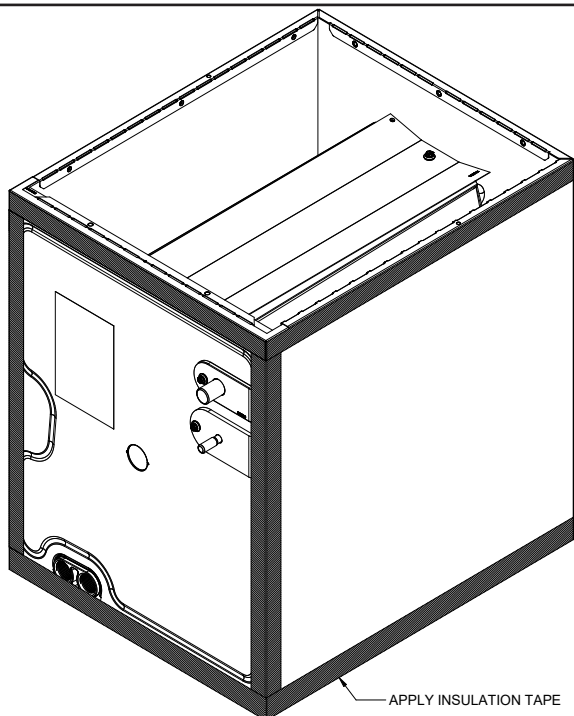

Figure 8
**IMPORTANT NOTE:** To prevent cabinet sweating and airflow leak, apply field provided insulation tape along all joining surfaces between the coil, gas furnace, duct work and panels. See Figure 8.